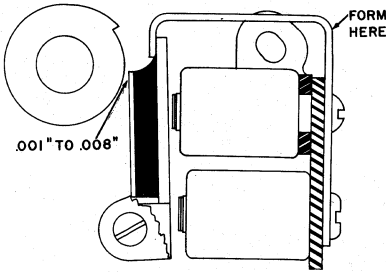

Figure 21
4. Cycle the punch about halfway and form the armature stop so there is .001" to .008" clearance between the clutch armature and the low surface of the clutch sleeve (Figure 21).